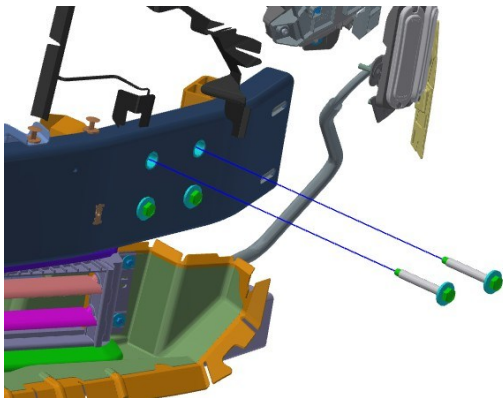

Figure 9a
A. Using a 15mm socket remove the top two bolts holding the crash bar to the mounts (Figure 9a).